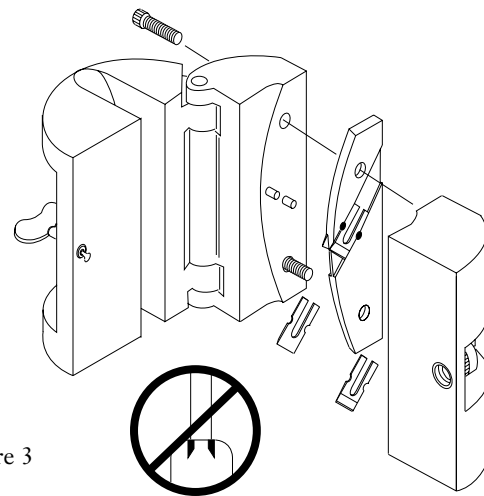

Figure 3
- a) Use the 3/32 -inch hex wrench provided with the tool to remove the two screws which secure the parts of the tool body together (Figure 3).
- c) Place the new blades into the tool as shown in Figure 3. Note the the "flat" surfaces of the blades **MUST** face "inside" and each other in the tool. If mounted as shown in Figure 3, inset, the tool will not make acceptable cuts.